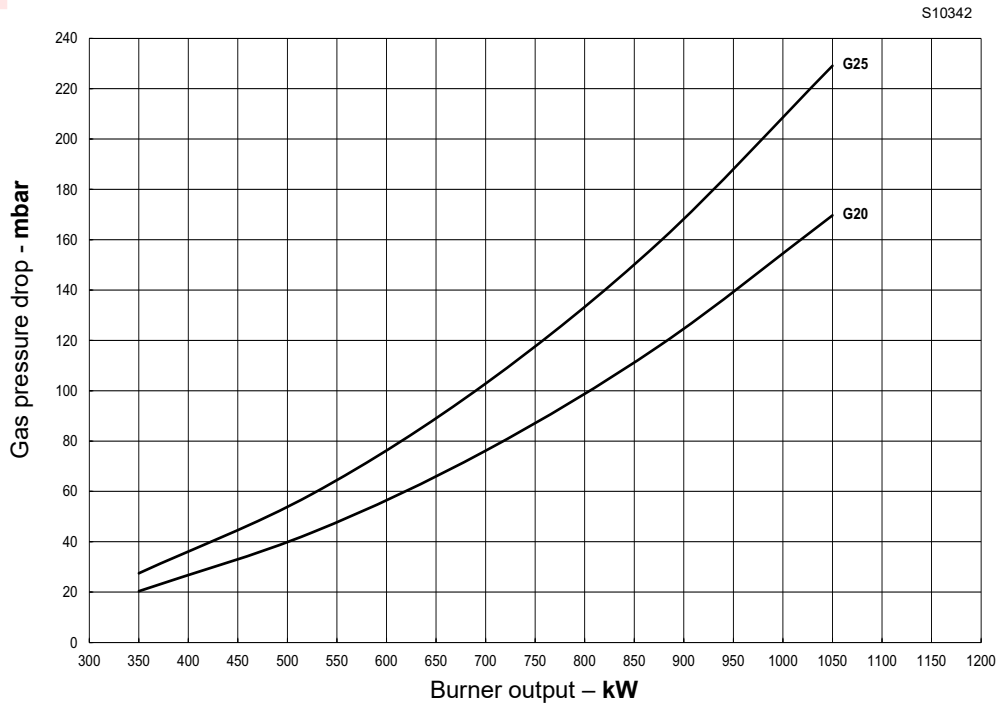
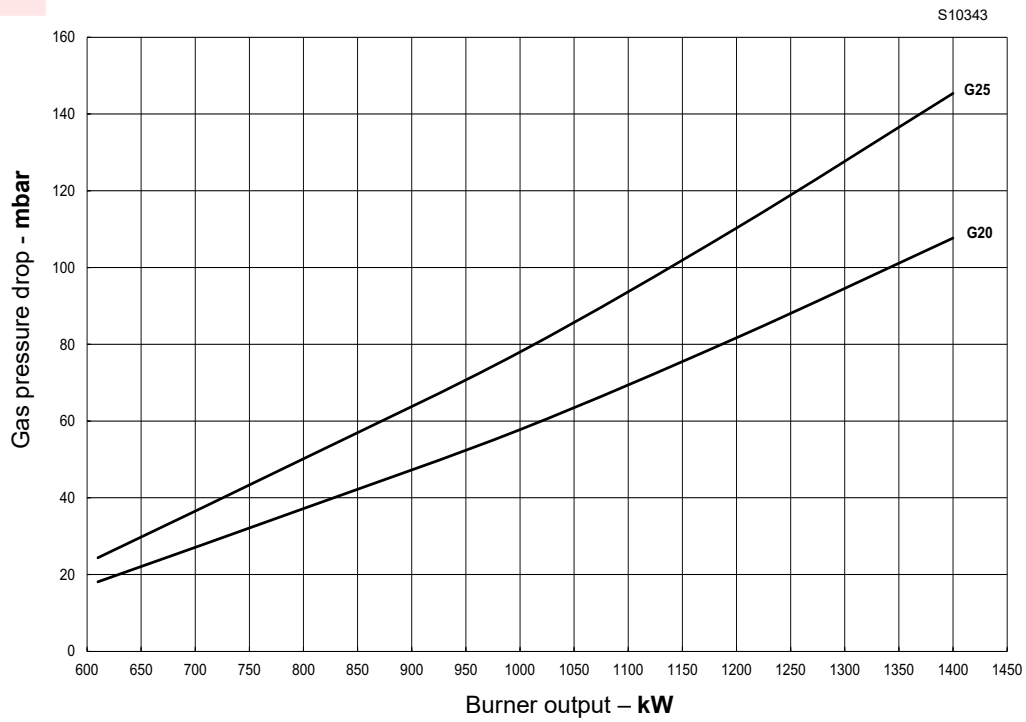
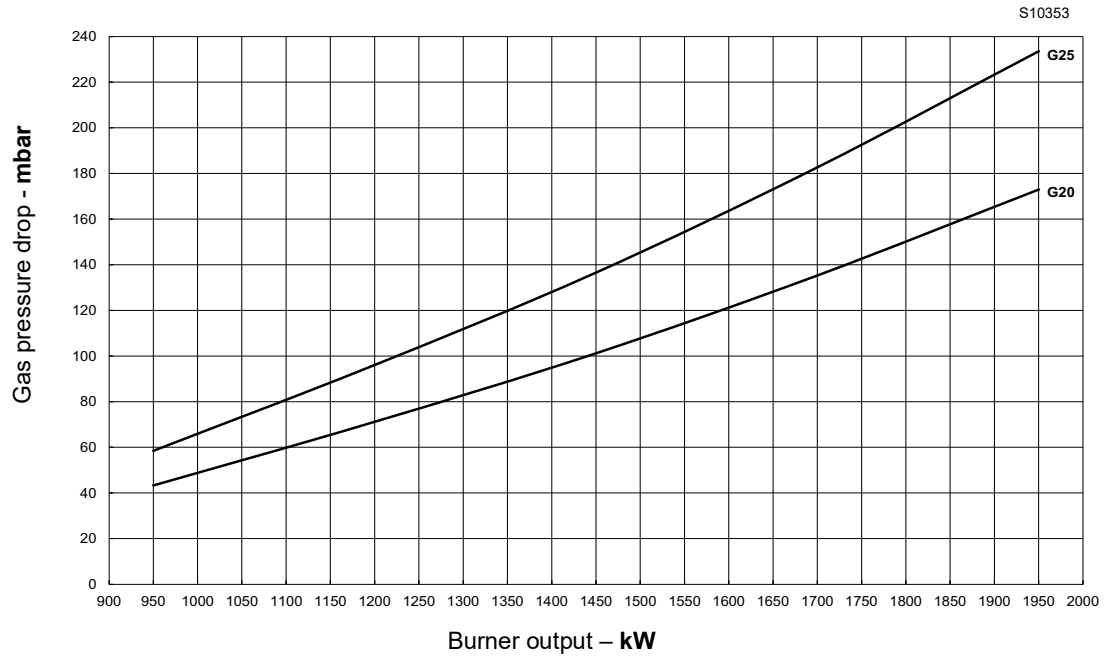
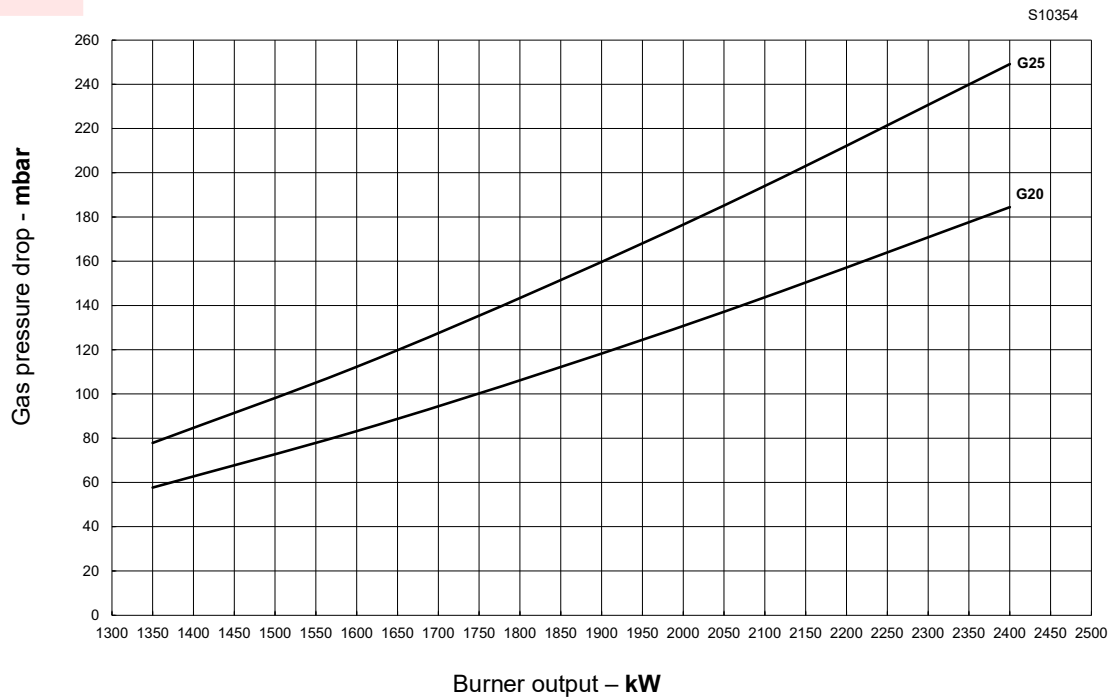

Fig. 26
Fig. 27
Fig. 28
Fig. 29
- Enter the mbar scale (Fig. 26, Fig. 27, Fig. 28 and Fig. 29) and read the corresponding output by reading on the line.
- find the nearest output value (Fig. 26, Fig. 27, Fig. 28 and Fig. 29).
- Bleed the air from the piping of the gas train, connecting a plastic tube to the pressure test point 1)(Fig. 26) of the minimum gas pressure switch. Take the vent tube outside the building so you can notice the smell of gas.